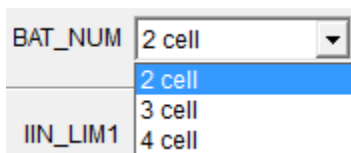

Figure 18: Battery Cell Count Configuration
4. Set the battery cell count (see Figure 18).